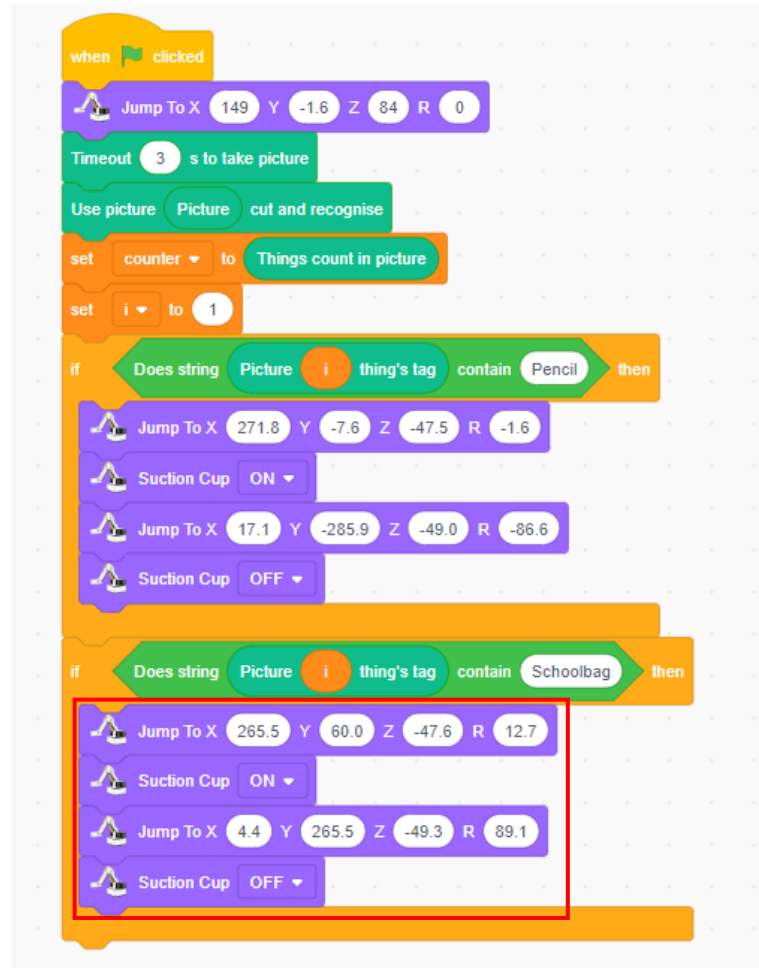

Figure 4.27 The schoolbag as a recognition result
Step 6: Make the robotic arms grab the schoolbag to the proper placement area if the label is recognized as schoolbag. The programming flowchart is as shown in Figure 4.27.